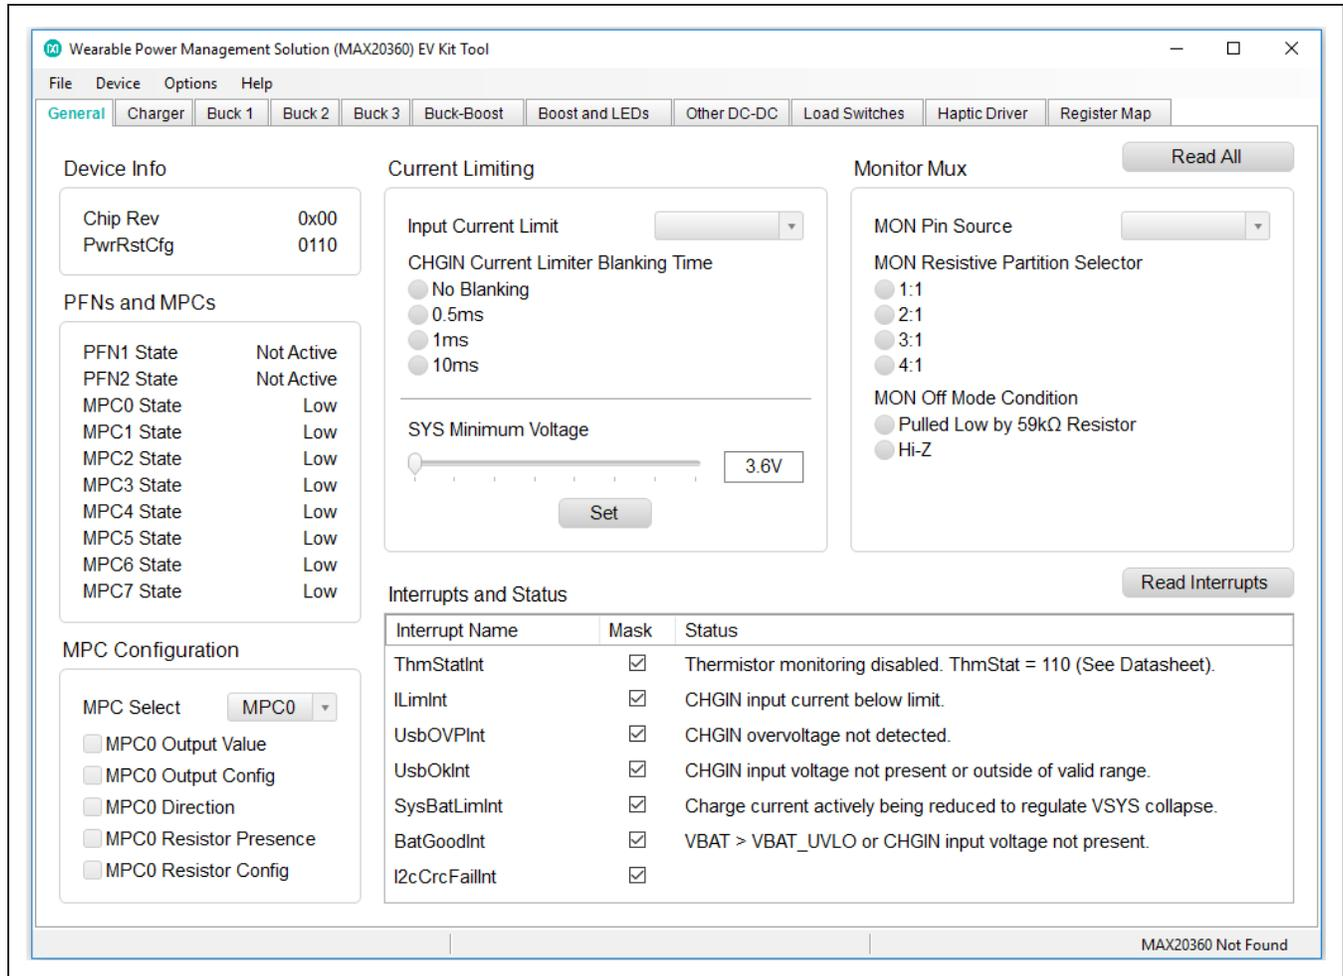

Figure 1. MAX20360 Not Found Status
- 7) On the computer, open the MAX20360 GUI. It should look like Figure 1, the status bar on the bottom displays **MAX20360 Not Found**.